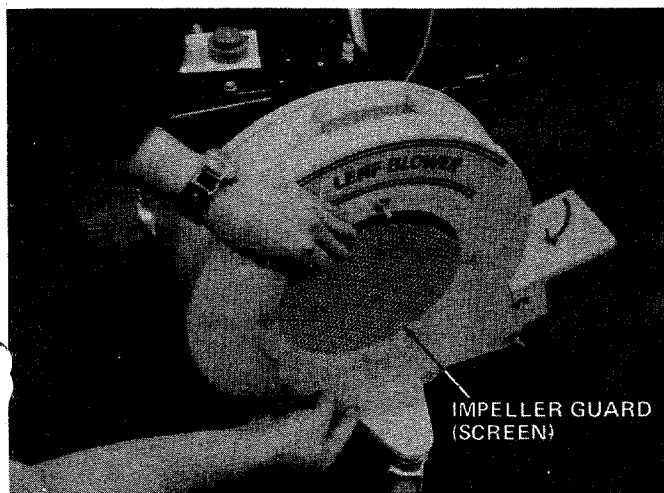

FIGURE 11
2. Lift off impeller guard (screen). See figure 11.